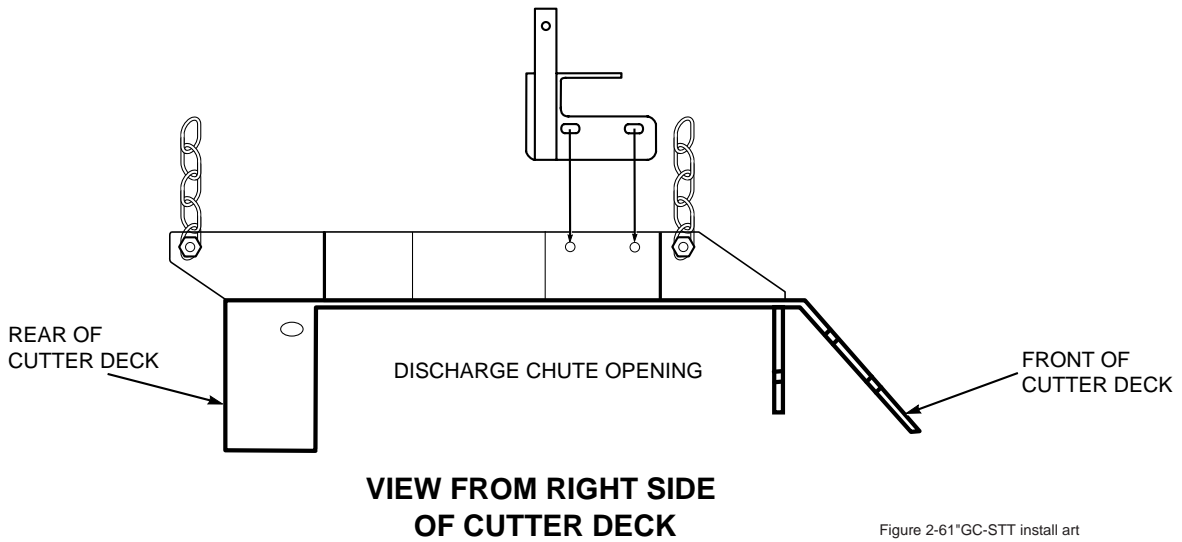

FIGURE 3-4
6. Install the blower mounting bracket to the deck using 1/2-13 x 1-1/2" hex head bolts (p/n 04001-71), 1/2" spring lockwashers (p/n 04030-06), and 1/2-13 elastic stop nuts (p/n 04021-07). See Figure 3-3, Page 3 for 52" decks and Figure 3-4, page 4 for 612"decks. Do not fully tighten the hardware at this time.